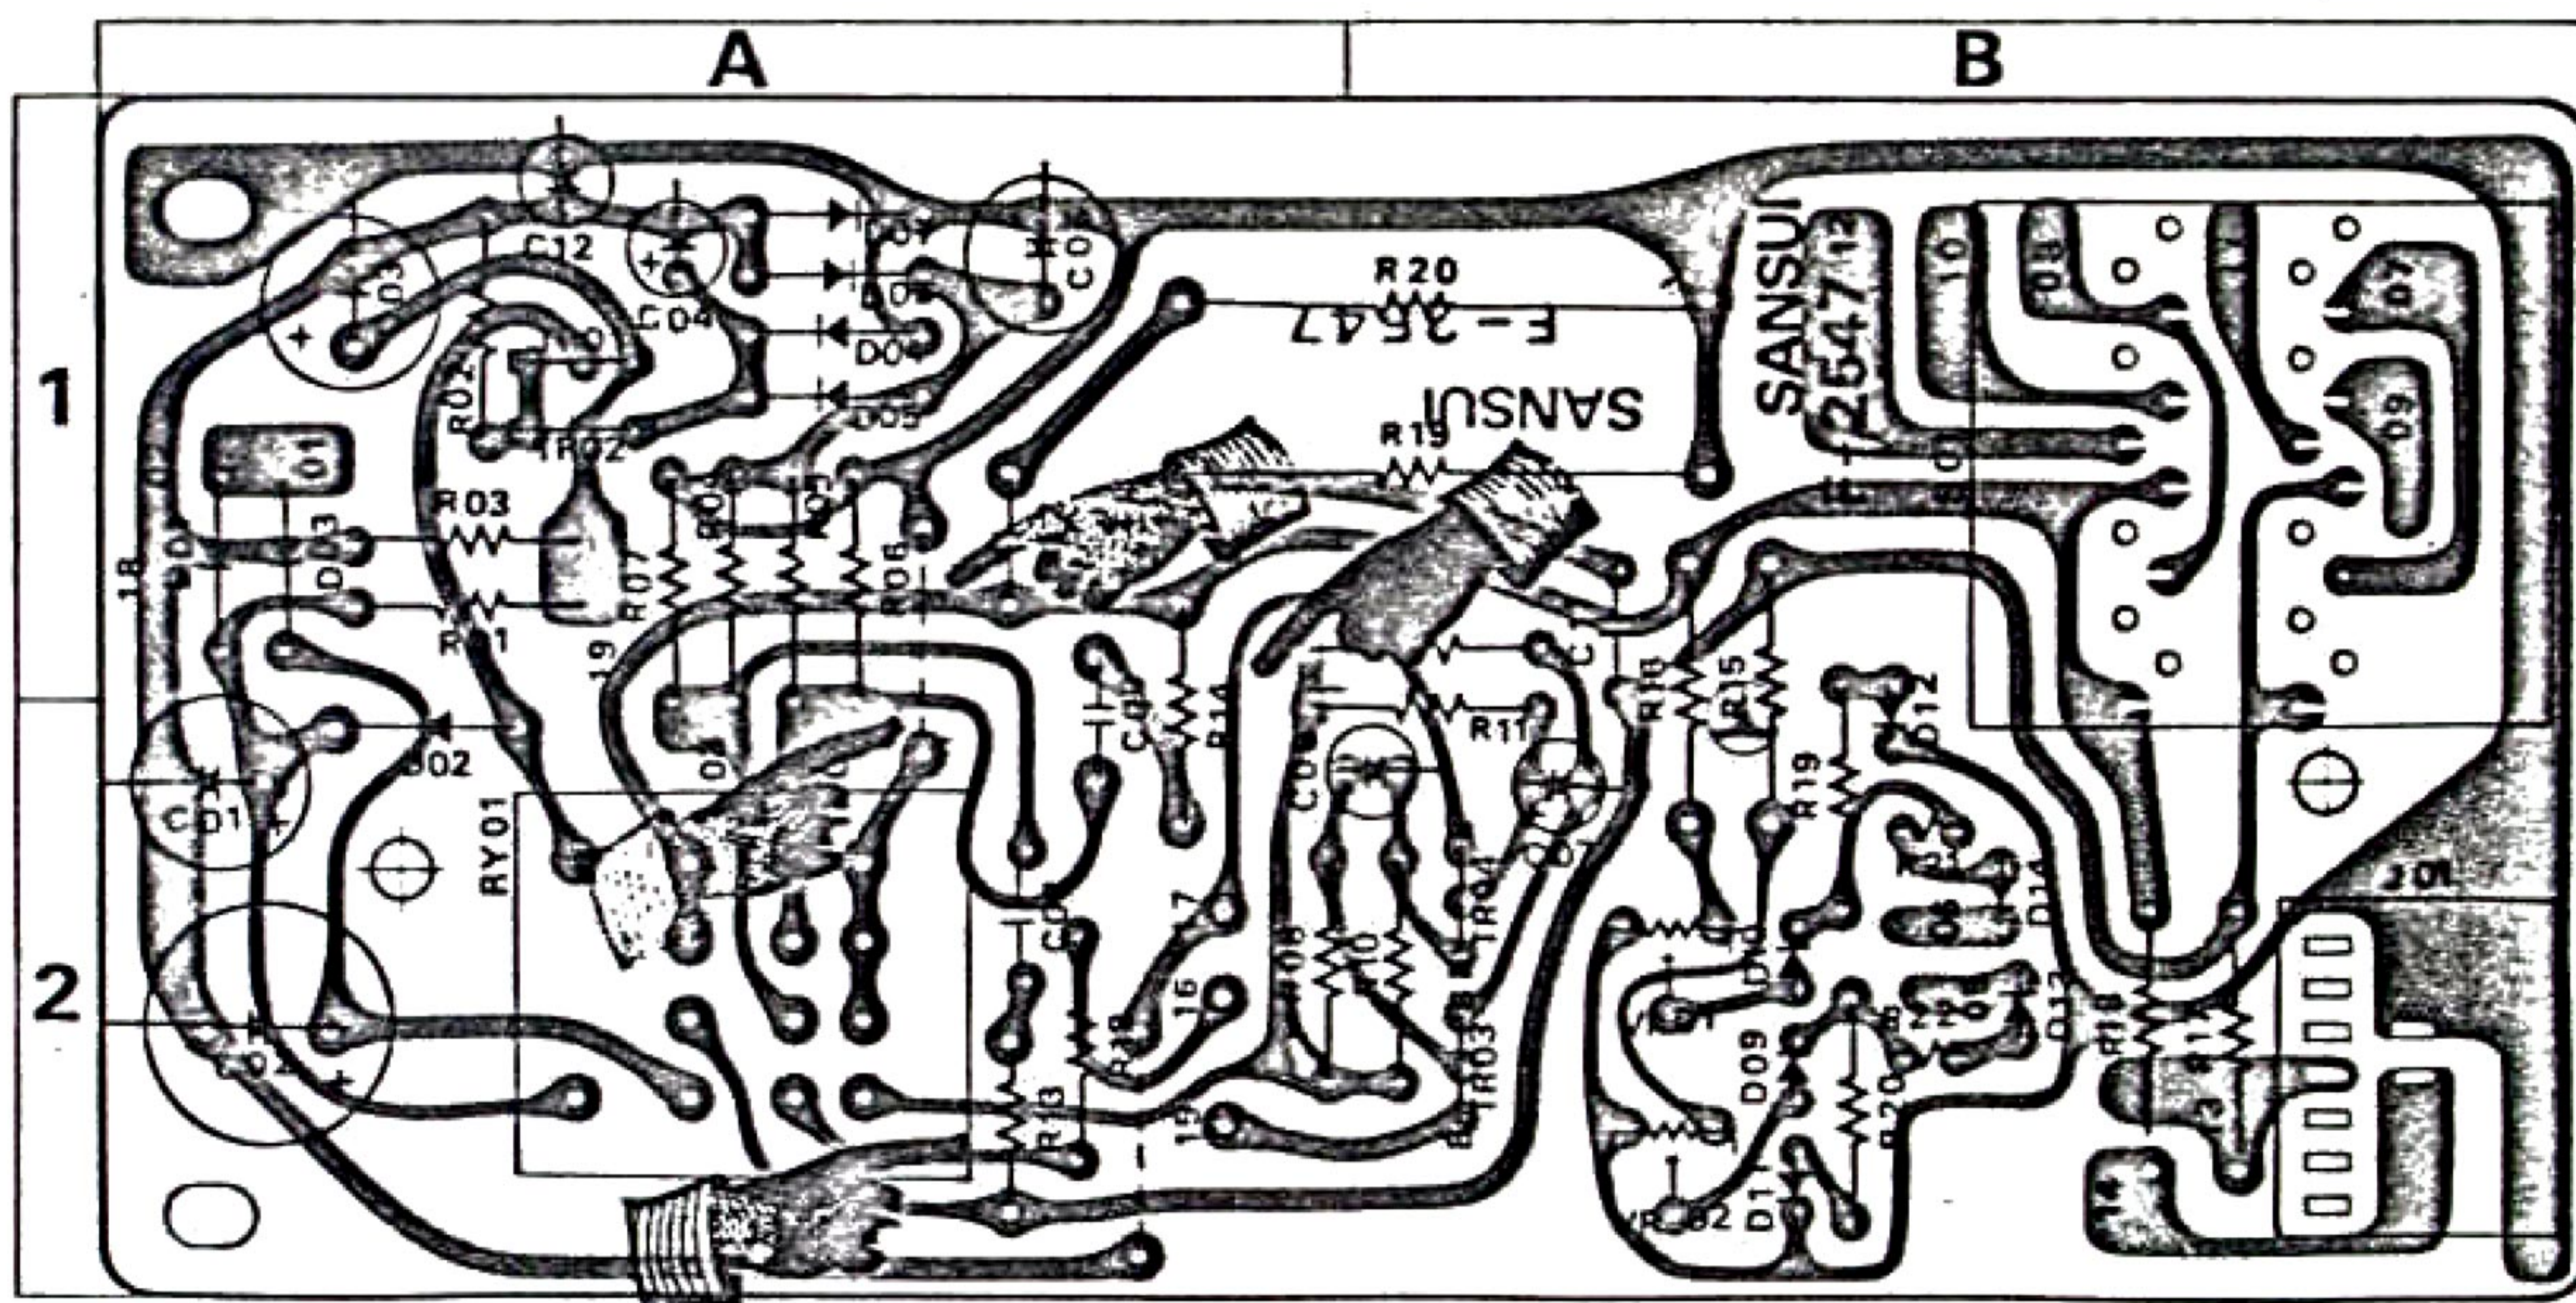

FIG. 1
- Resistors R13 and R14, 10 Ohms have to be replaced by special fusing resistors of 4.7 Ohms 1/2 W. See fig. 1.
- The jumper connecting some relay contacts to earth, as shown in fig. 1, has to be removed.